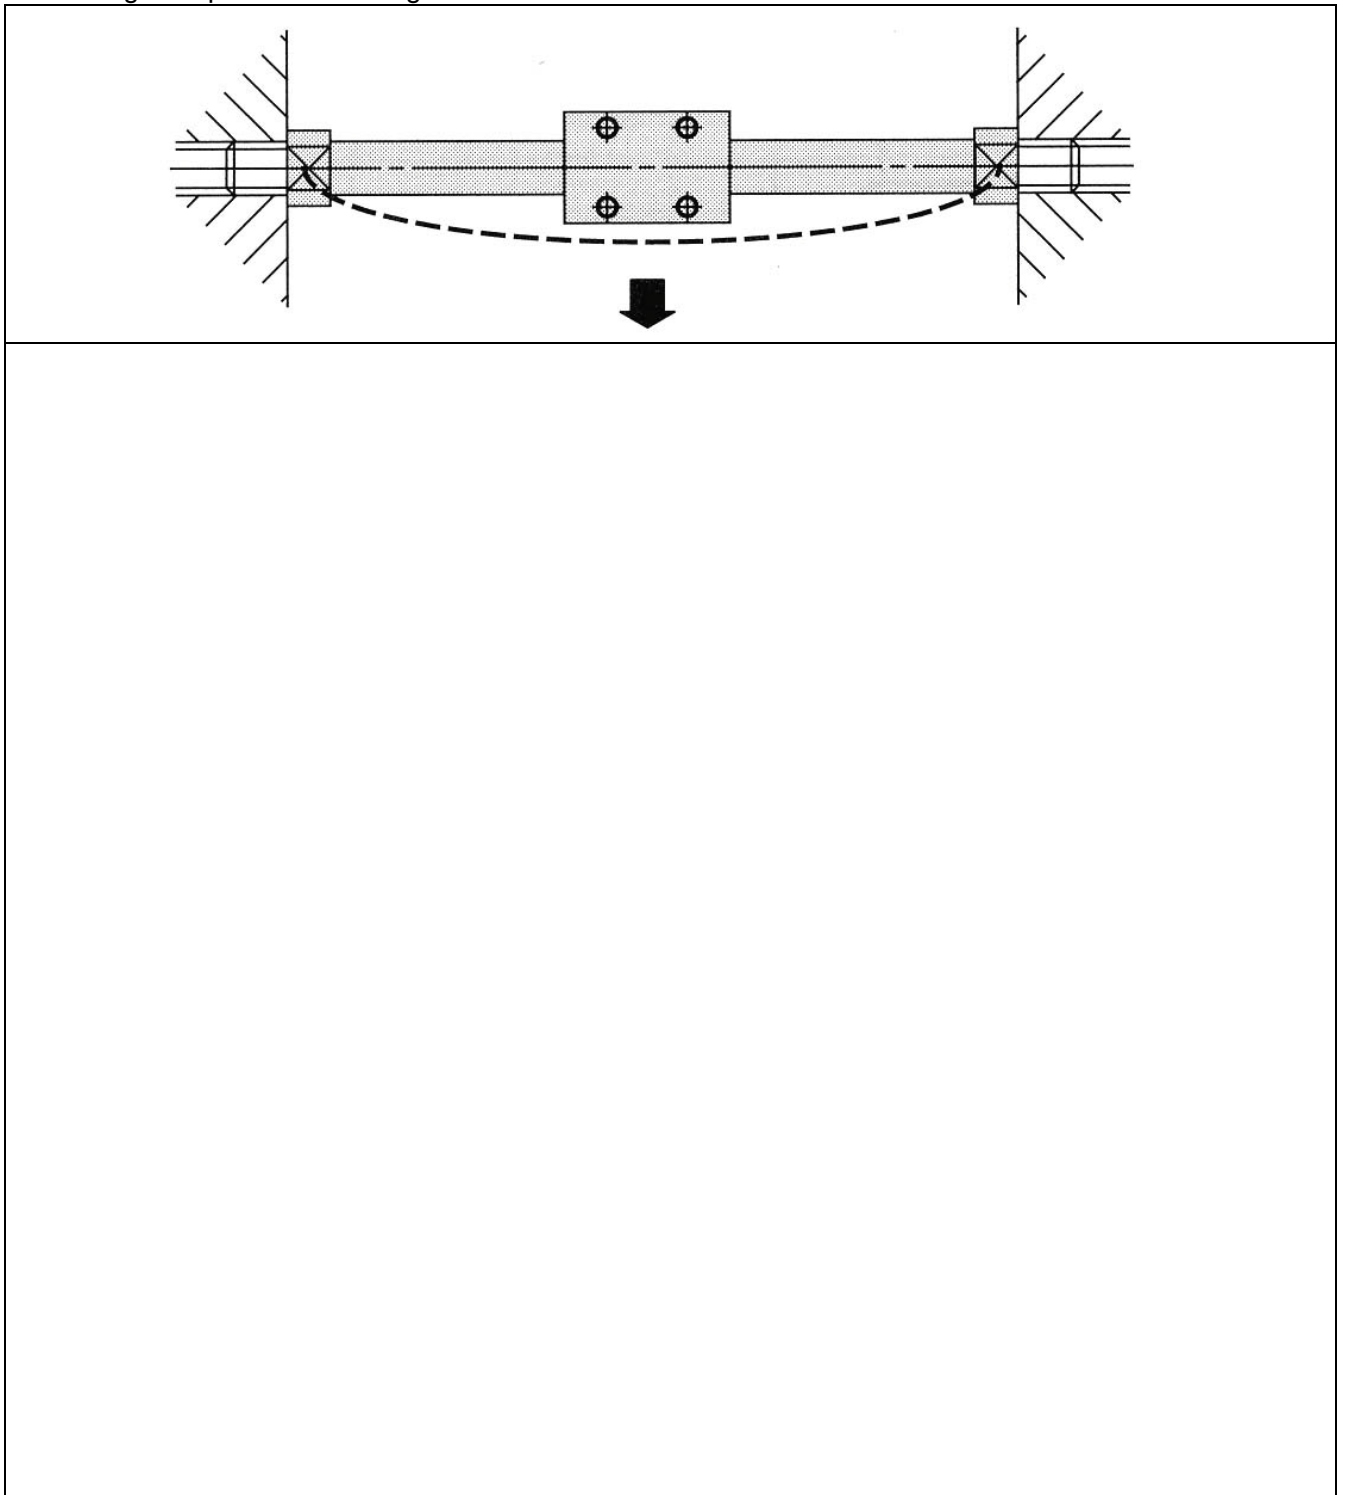

Fig. 2 Deflection of rodless cylinder by self-weight
- I -a) The cylinder is deflected by self-weight as shown on Fig. 2. This means longer stroke produces larger displacement of alignment.